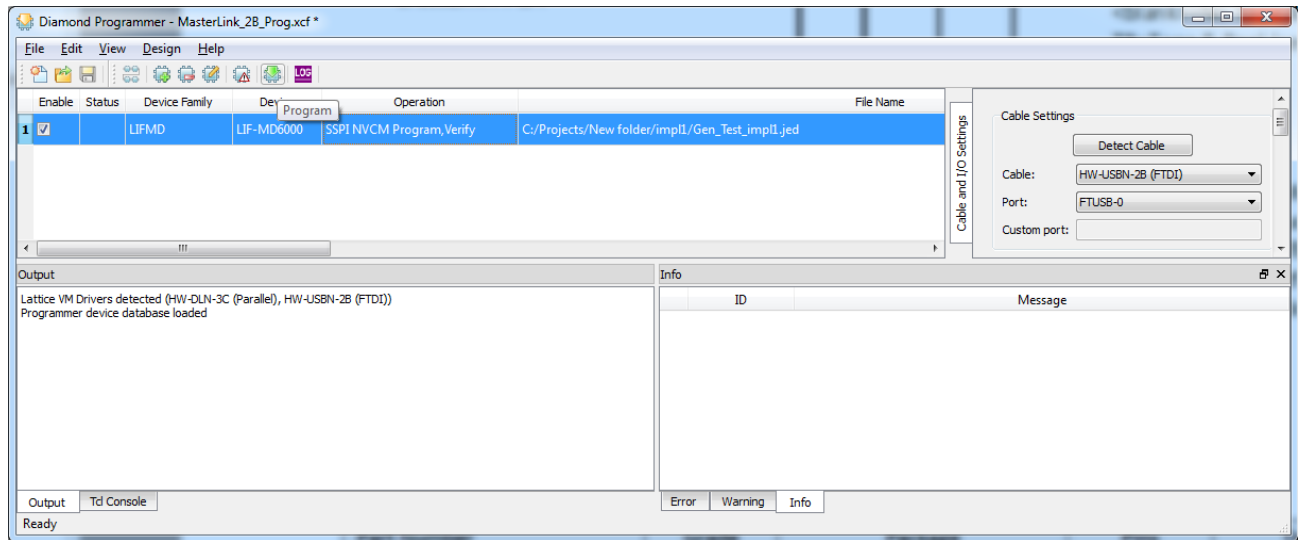

Figure 6.31. CrossLink Family – Program Icon
4. Click the **Program** icon  to program the device as shown in Figure 6.31.